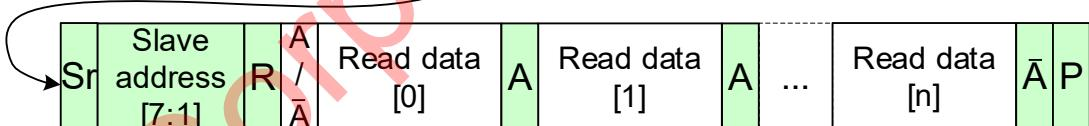

Figure 3-17 Request Format for Reading Data from the Buffer
“Figure 3-16” and “Figure 3-17” illustrate the data format to read from or write to the buffer. To access the buffer, set the Buffer Address to the start address. “Figure 3-17” illustrates two patterns of request formats to issue a Stop Condition (P) and a Repeat Start Condition (Sr).